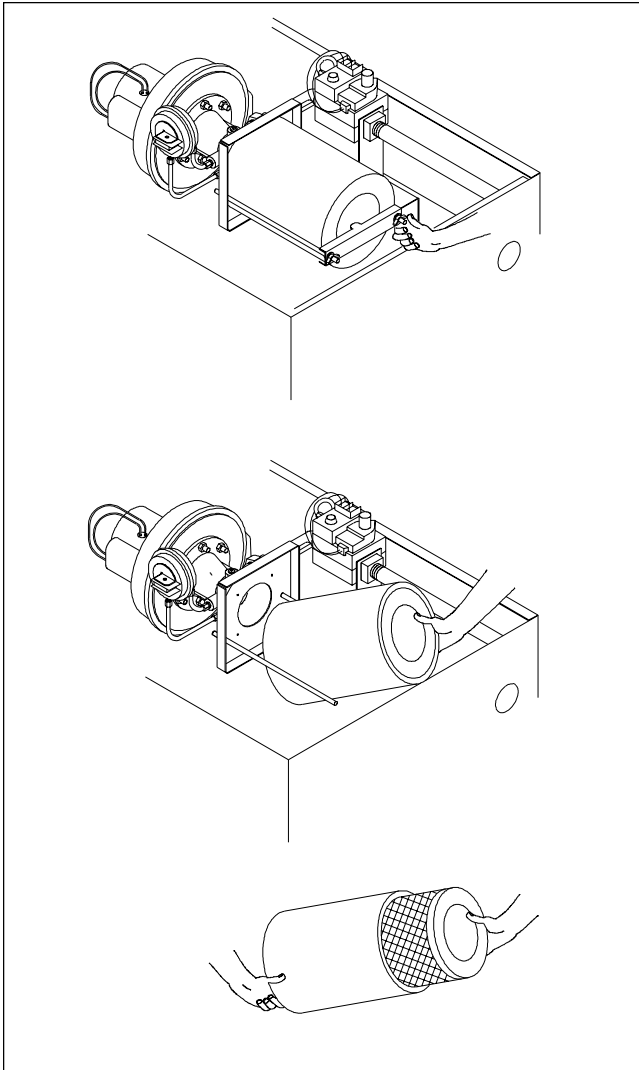

Figure 12. Filter Removal
3. Remove the retainer and combustion air filter cap, then remove the filter assembly (see Fig. 12).